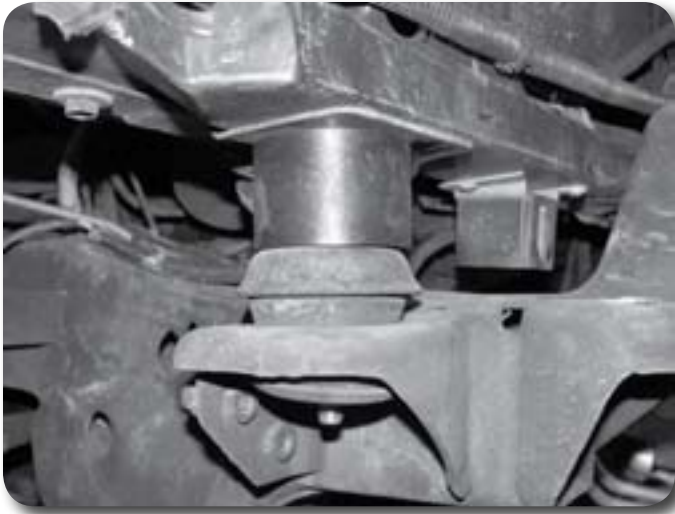

Figure 26
33. Install 12mm x 140mm bolts and 7/16" USS washer in conjunction with the large factory washers and bushings in the main cab mounts. Install a 12mm x 140mm bolt with large 1/2" washer in the front core support mount from the top down and fasten with the factory bushing, washer, and nut **Figure 26**. Leave all hardware loose at this time.